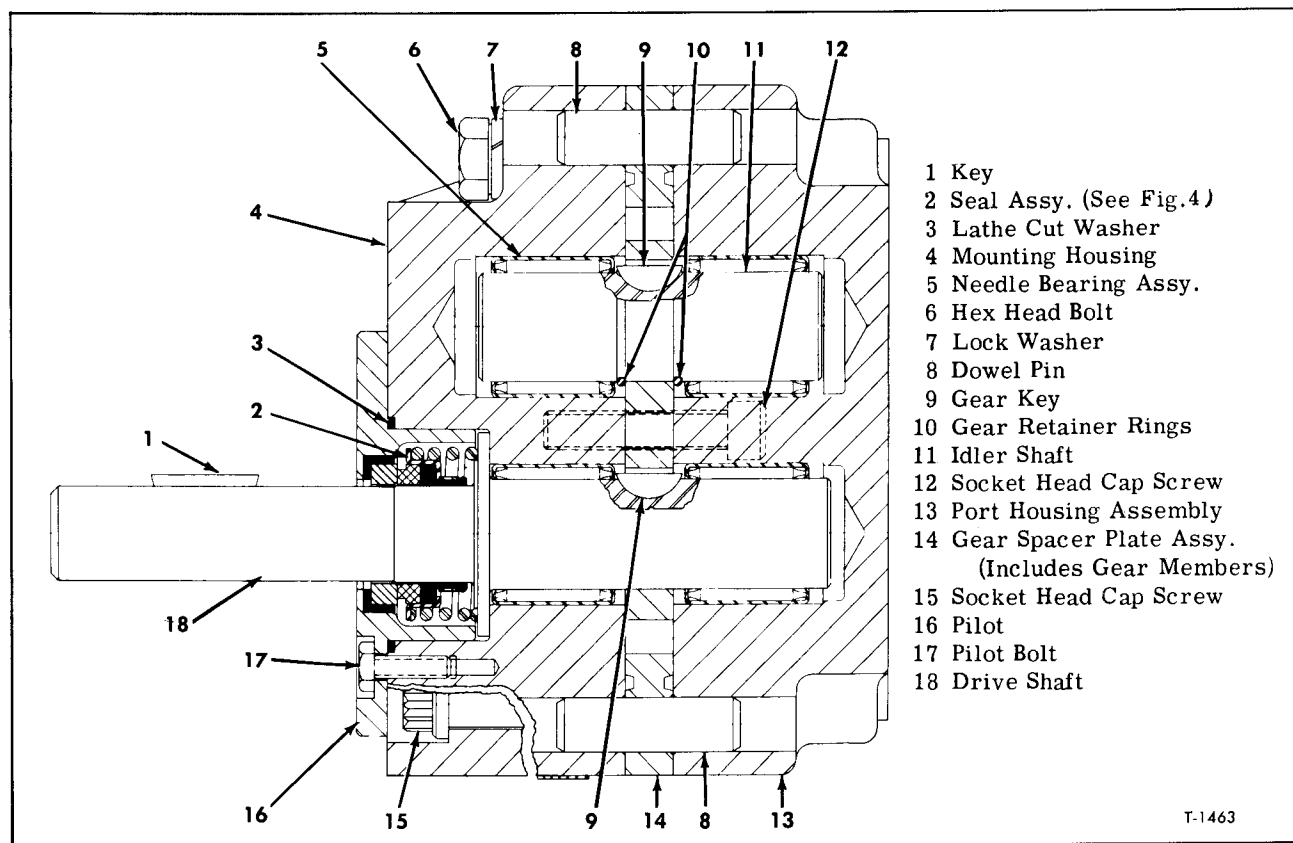

Figure 3—Sectional View of Condenser Fan Drive Hydraulic Pump
(Key numbers in text refer to figure 3, except as otherwise indicated)
Key numbers in text refer to figure 3.
Key numbers refer to figure 3, unless otherwise indicated.
1. If shaft bearings (5) have been removed from either housing (4 or 13), use suitable installer to press new bearings into housing bores. Bearings must be located as shown in figure 3, i.e., far enough into bore so that, when pump is assembled the retaining rings (10) on idler shaft (11), and